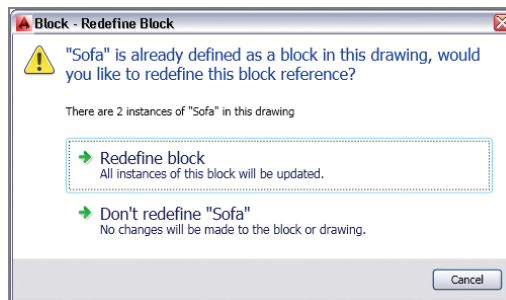

FIGURE 9.12 You are asked whether you want to redefine a block before it is done.
6. Click the Browse button in the Insert dialog box. Select the Sofa.dwg file you saved in step 2. Click OK in the Insert dialog box, and the Block – Redefine Block dialog box appears (see Figure 9.12). Notice that it says that there are two Sofa block references in the drawing. These are two sofas in Reception. Click Redefine Block.